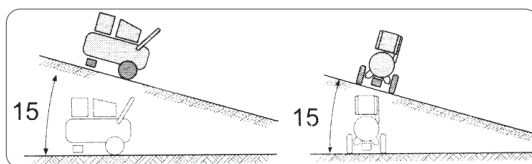

FIGURE 7.9
- In order to avoid damage to the compressor, operate it only on a level base or, as recommended, at a maximum of 15° (Figure 7.9). If the compressor operates on an inclined plane (maximum 15°), the wheels must be chocked to avoid unwanted rolling.